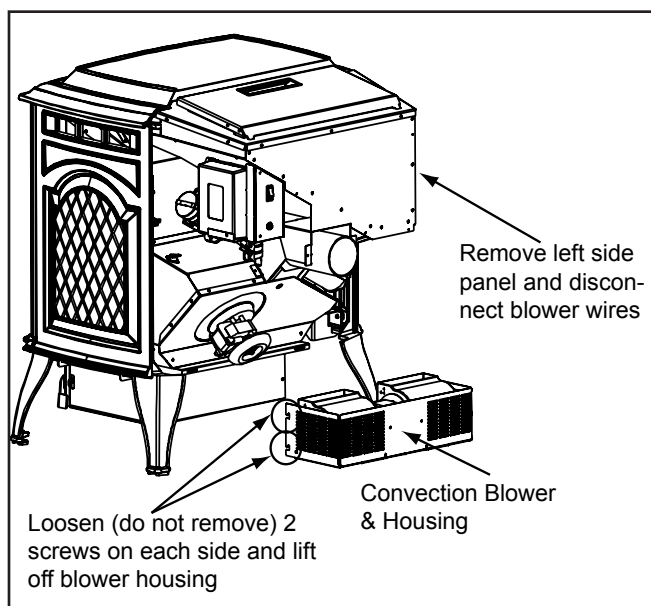

Figure 31.1
- d. Remove the 4 screws that attach the blower housing to the appliance, 2 on each side. Loosen all 4 screws, but do not remove them. Lift the blower housing up slightly and slide towards you. **Figure 31.1.**